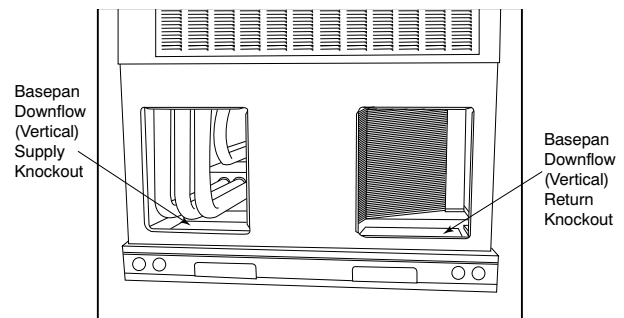

Fig. 9 – Supply and Return Duct Opening
The flue assembly is secured and shipped in the return air duct. Remove duct cover to locate the assembly (See Fig. 9).
2. Remove flue hood from shipping location (inside the return section of the blower compartment-see Fig. 9). Remove the return duct cover to locate the flue hood. Place flue hood assembly over flue panel. Orient screw holes in flue hood with holes in the flue panel.
2. Remove horizontal (metal) duct covers to access vertical (downflow) discharge duct knockouts in unit basepan. (See Fig. 9.)